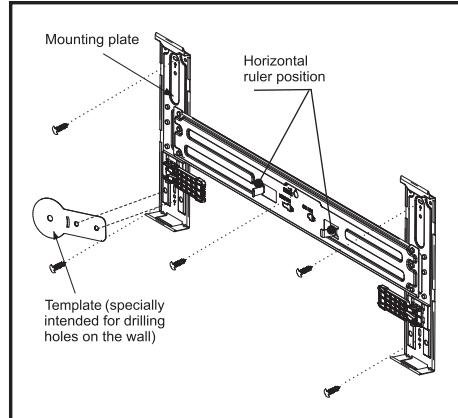

Fig. 1
- 5) Align the 2 holes of the template with the 2 holes of the mounting plate as show in Fig. 1.
- 1) Decide the position of hole for piping according to the location of mounting plate(see the position and size of the template as shown in Fig. 1).
Note: If you have a hole on the wall, you need to align the round part of the paper board with the hole on the wall. Then align the 2 holes of the mounting plate with the 2 holes of the paper board (shown in fig. 1) to decide the installing location for the mounting plate.